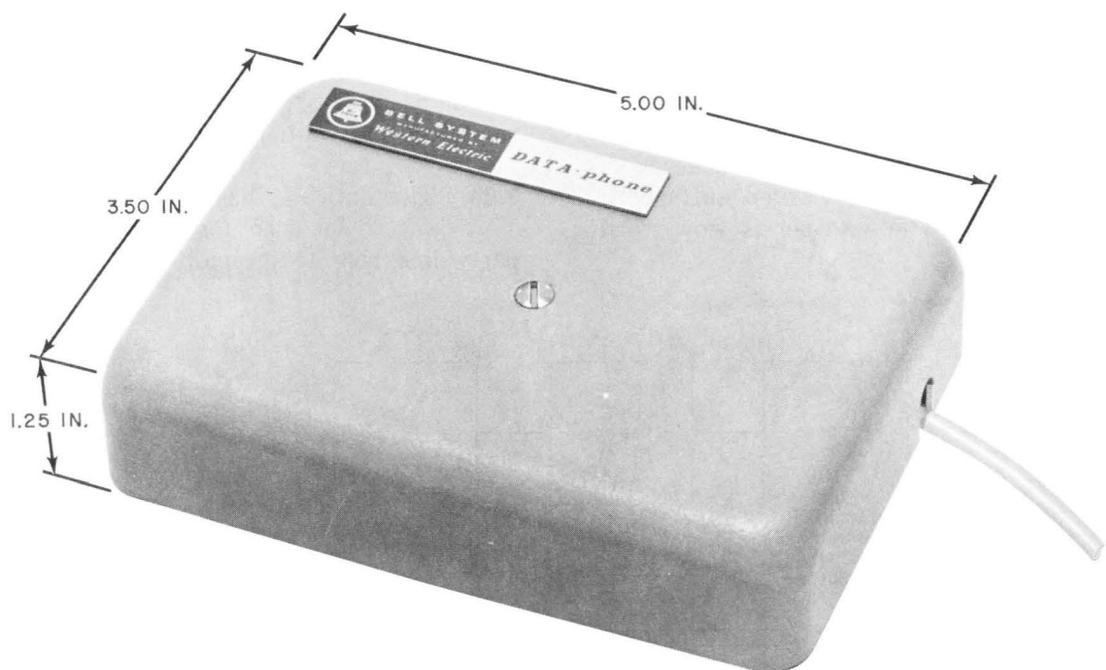

Fig. 1--Data Set 114A—Front View
1.02 The physical dimensions of Data Set 114A are given in Fig. 1.